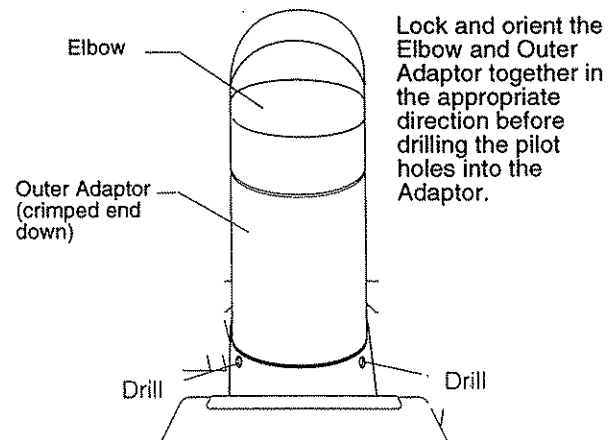

Figure 14. Pre-drill pilot holes into the Outer Adaptor pipe.
- Insert the Outer Adaptor Pipe, seam facing back, into the flue collar. If applicable, insert and fully engage an elbow into the Outer Adaptor pipe and rotate the pipe so that the elbow is facing the appropriate direction for connection to the vent termination. Fig. 14.